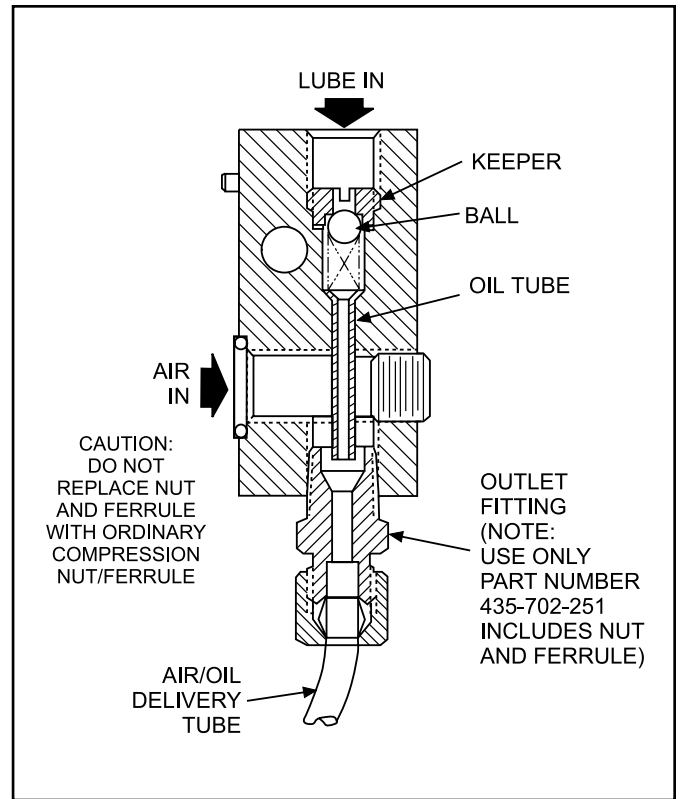

Figure 4-2. Mixing Tee
4.3.3 Mixing Tee: As shown in Figure 4-2, the mixing tee has a built in keeper and ball which act as a check valve, opening only when the divider valve cycles. As the valve cycles, oil pressure opens the check valve and allows oil to enter an oil tube leading to the outlet fitting. The flow of incoming air carries the oil in a laminar layer along the walls of the air/oil delivery tube. If either the keeper or ball are defective, oil from the supplying tube could leak into the mixing tee even when the divider valve is not cycling. This could cause a void, resulting in an improper amount of lubricant being dispensed.